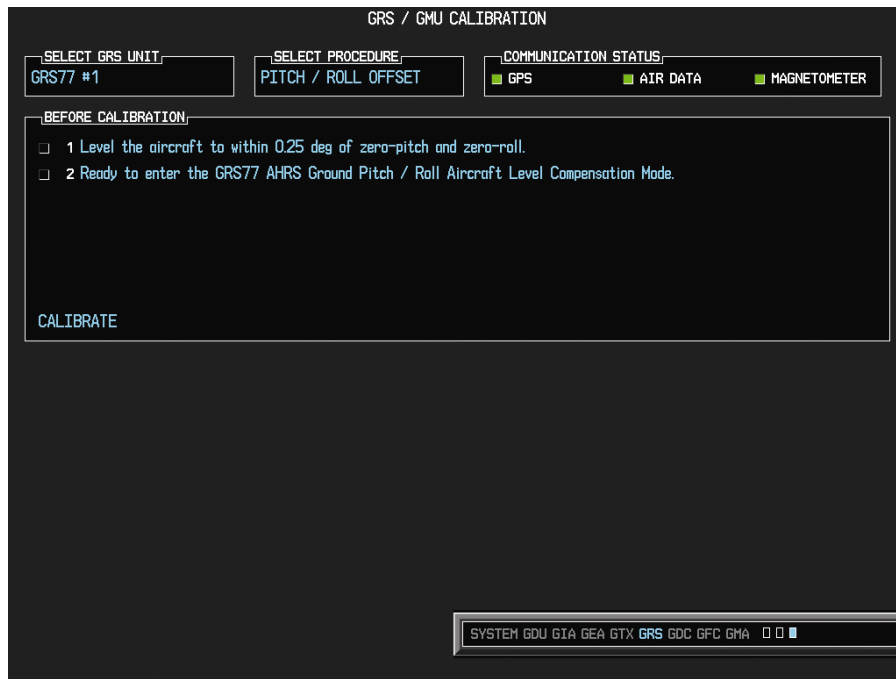

Figure 7-3. Pitch/Roll Offset
- a. Enter Configuration Mode and go to GRS/GMU CALIBRATION page as shown in Figure 7-3.